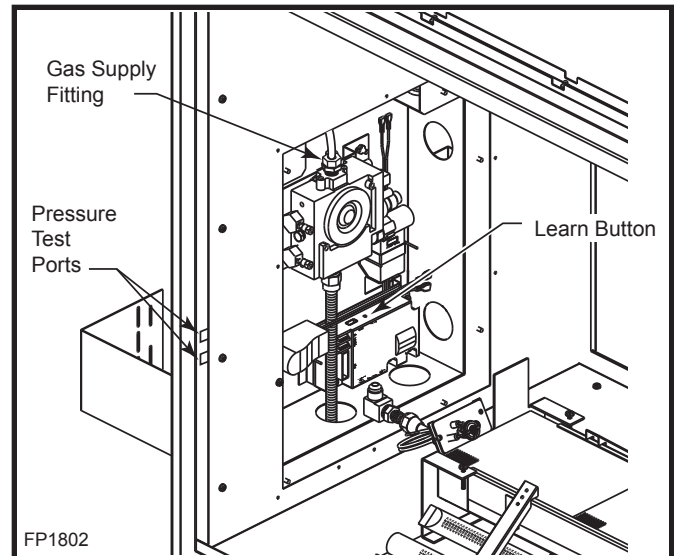
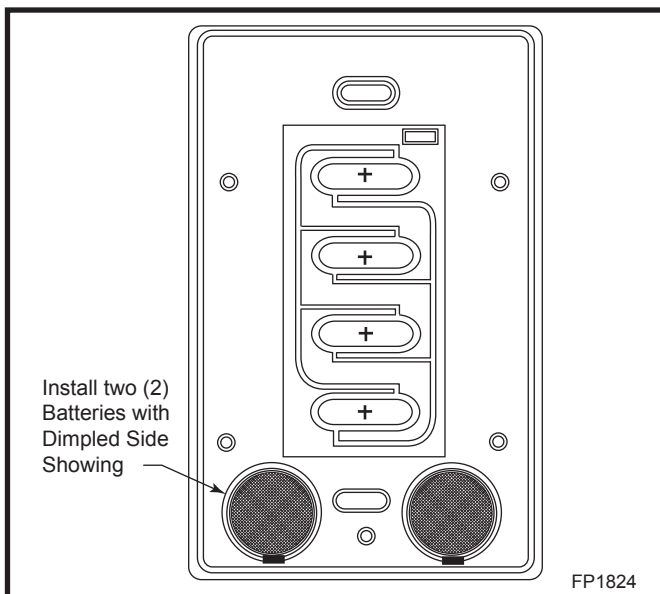

Fig. 8 Connect gas supply to valve.
Fig. 9 Inside view of wireless wall switch.
10. Connect the gas supply to the valve. (Fig. 8) Be sure to use a back-up wrench when tightening supply fitting.
13. Insert the supplied four (4) "AA" batteries into the battery older. Be sure to note correct polarity for each battery.
18. Remove the battery door on the back of the hand held remote control and install two (2) supplied "AAA" batteries. Be sure to note correct polarity. Replace battery door.
19. If you choose to install the optional wireless wall mounted remote control (Part No. 20012267), install two (2) button batteries provided with the remote control by removing four (4) screws holding the back cover in place. Carefully remove the circuit board. Install batteries with dimpled side showing. (Fig. 9) Carefully replace circuit board and back cover. Tighten screws.
20. Locate the learn button on the main module. (Fig. 8) Press and release the learn button using a pencil point. There will be a beep sound from the module. Then press any key on the hand-held remote control transmitter. Once the module's internal receiver accepts the transmitter code, there will be a series of confirming beeps. If you are using the optional wall mountable remote control transmitter, press the learn button on the main module a 2nd time. There will be a beep sound from the module. Then press the ON button on the wall mountable transmitter. Once the module's internal receiver accepts the transmitter code, there will be a series of confirming beeps.
NOTE: If you need to test the inlet pressure and/or manifold pressure, there are two (2) test ports available along the right side front edge between the firebox side and outer casing. The upper test port is inlet pressure. The lower test port is manifold pressure. (Refer to Figure 8)